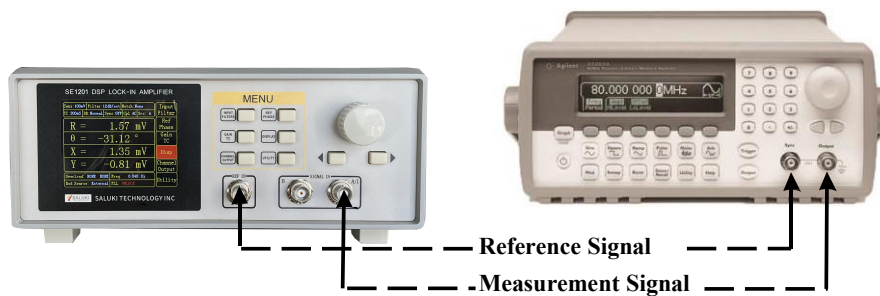

Fig.57 Signal Cable Connection Diagram
2. Use a BNC cable to connect the output of the function signal generator and the A/I input of the SE1201. Use another BNC cable to connect the reference signal of the function signal generator and the REF IN of the SE1201, as is shown in Fig.57.